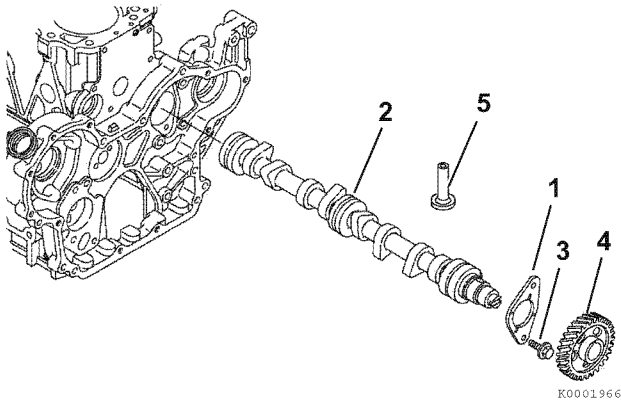

Figure 6-51
- Remove the two bolts (Figure 6-51, (3)) retaining the camshaft thrust plate (Figure 6-51, (1)).
- Rotate the engine in the engine stand so that gravity causes the tappets (Figure 6-51, (5)) to drop away from the camshaft lobes.
- Slowly pull the camshaft (Figure 6-51, (2)) assembly out of the engine being careful not to damage the front camshaft bushing.
- Remove the camshaft drive gear (Figure 6-51, (4)) only if the gear or camshaft require replacement. Use a knife-edge puller and a press to remove the gear. The gear is a shrink-fit and will need to be heated to 356 - 392 °F (180 - 200 °C) to remove.